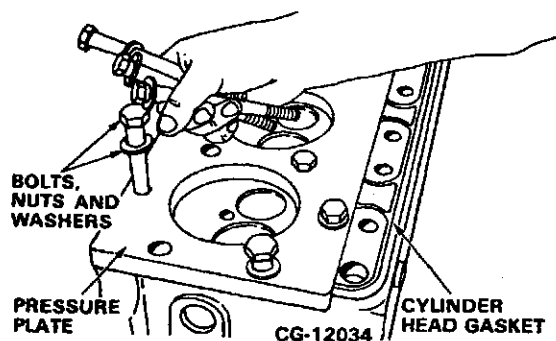

Figure 4.17. Install Bottom Pressure Plate
- d. Fasten the pressure plate and head gasket to the cylinder head gasket surface using the mounting bolts and nuts supplied with the kit. Refer to Figure 4.17.